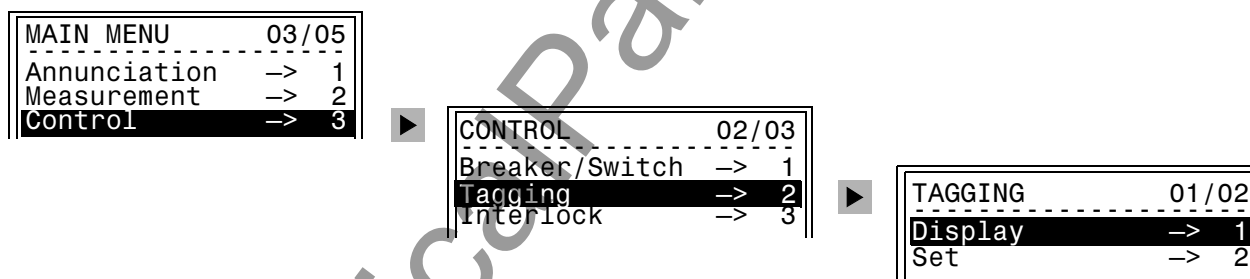

Figure 4-11 Tagging equipment from the operator control panel
- The status of the tagging is displayed on the operating panel, **Main Menu** → **Control** → **Tagging** → **Display** (Figure 4-11),